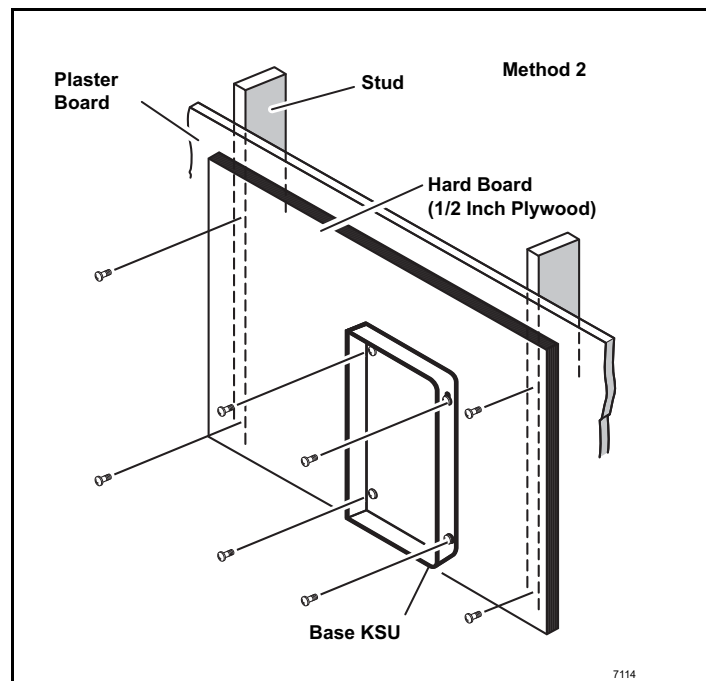

Figure 1-8 CIX40 Cabinet Wall Mounting
4. Using a hard board between the cabinet and the wall, secure the hard board to the wall first, making certain that screws are aligned with studs. See Figure 1-8.